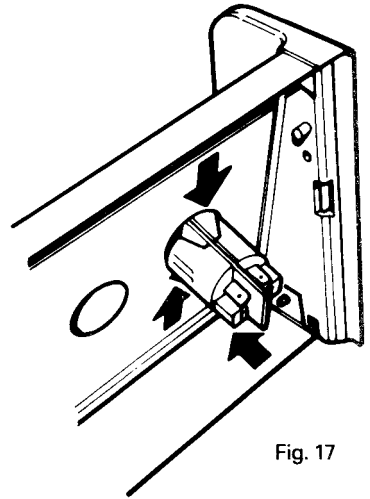

Fig. 17
2. Push in ignition switch tags from the rear of the fascia and remove switch (see Fig. 17).